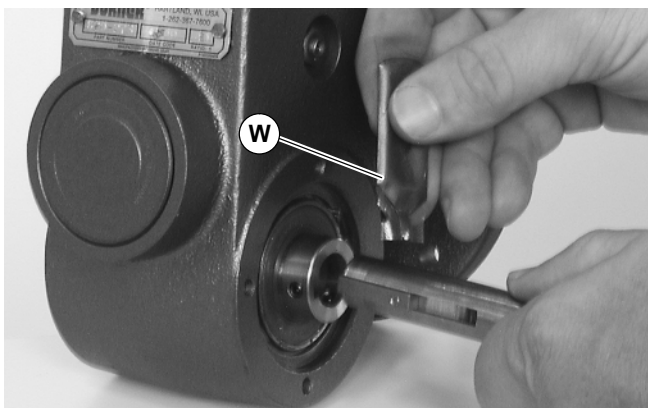

Figure 13
7. Remove two (2) screws (Q) and detach output shaft cover (R).
8. Remove gear reducer output shaft key (S).
9. Apply Loctite® 680 Adhesive (W of Figure 13) to new shaft.